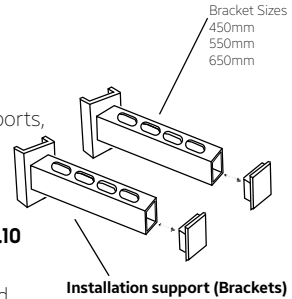

Fig.10
- If installation brackets for installing the outdoor unit are needed, users can purchase them from our company or agents **(refer to Fig.10)**.